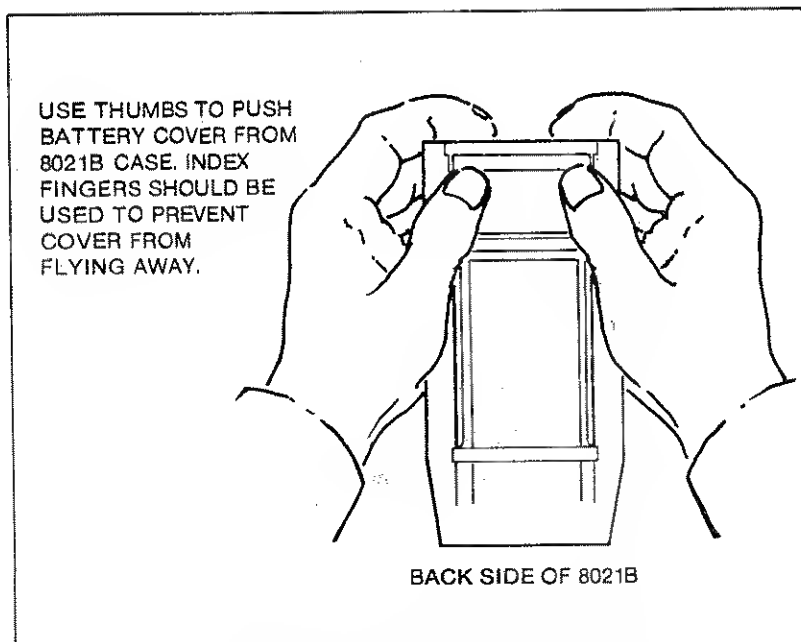

Figure 2-1. Removing the Battery Cover
3. Open the battery compartment on the bottom of the 8021B using the method shown in Figure 2-1.